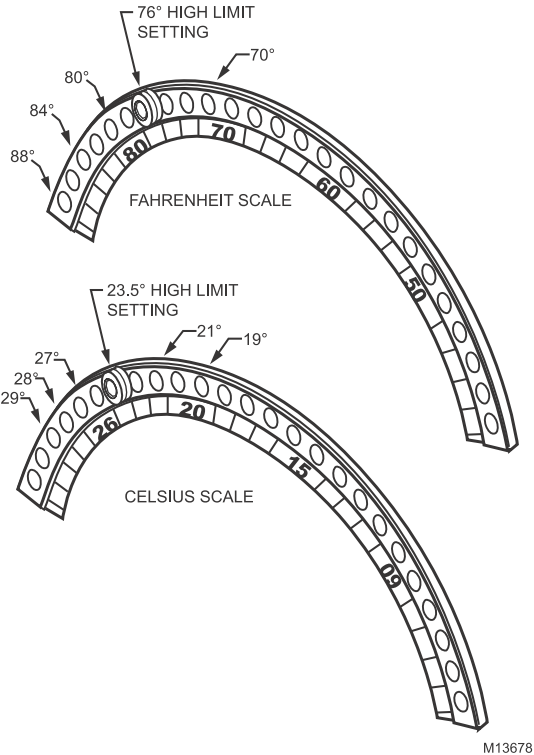

Fig. 5. High range stop settings.
5. Mount the thermostat onto its base and set desired temperature. See Fig. 5.